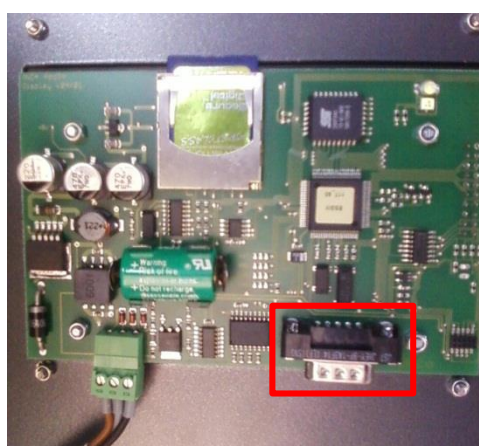

Fig. 3.1: Main board of the INCA process gas analyser
- 2) Connect one end of Null modem cable to the marked connector in **Fig. 3.1**.